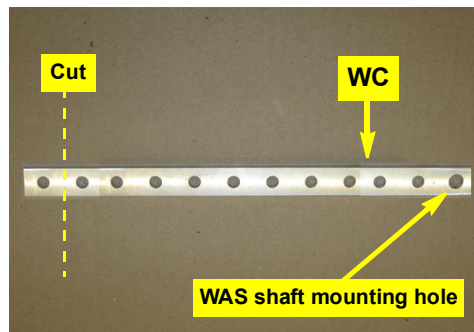

Figure 1b: WAS arm preparation
- b. Cut one hole off WAS arm **WC** at the opposite end from the WAS shaft mounting hole (Figure 1b).